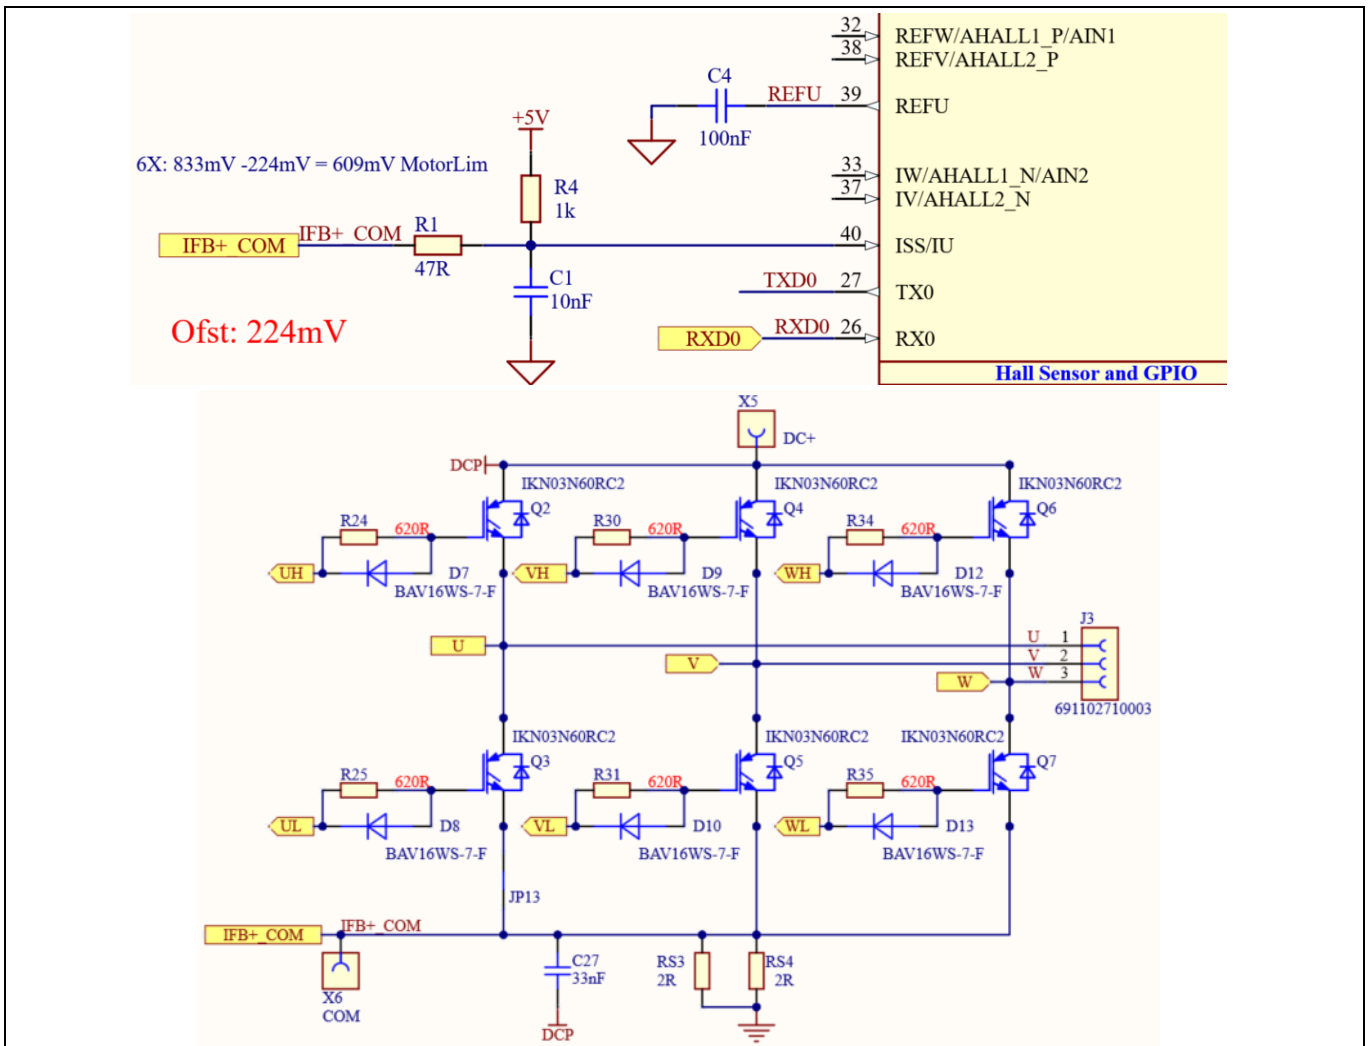

Figure 26 Motor current-sensing circuit on the board
As an example in Figure 26, this board has the following values: $R_1 = R_1 = 47 \Omega$, $R_2 = R_4 = 1 \text{ k}\Omega$, $R_s = R_{S3}/R_{S4} = 1 \Omega$, $V_{cc} = 5 \text{ V}$. By using the formula in Eq. 5, the offset is 224 mV, and the gain is $\frac{R_2}{R_1 + R_2} * R_{shunt} = 955 \text{ mV/A}$. Because the amplitude attenuation of low-pass filter, the gain needs to be amended to 909 mV/A for MCEWizard configuration.
- R_1 and R_4 in Figure 26 determine the ADC operational bias for current sensing, which corresponds to the motor regeneration operation range. For applications that do not work with a regenerative braking mode, the bias can be as low as possible to reserve enough ADC range for the drive mode, since the current in the sense resistance always flows in one direction only. In this example, the offset is 224 mV.
input to ADC offset voltage.” The DAC output pin REFU needs to be connected to a capacitor to improve noise rejection (e.g. a 100 nF/25 V capacitor is used on the board as shown in Figure 26).